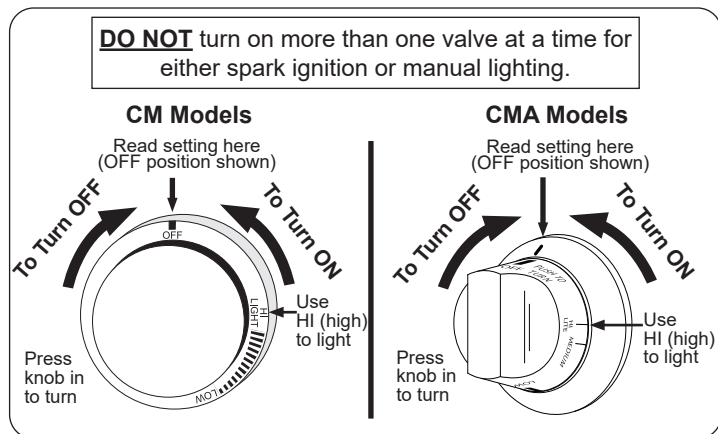

Fig. 35-1 Control knob
4. Depress the desired control knob, and while pressing turn it counterclockwise to the **HI LIGHT** position (Fig. 35-1). Once the burner lights, release the knob.